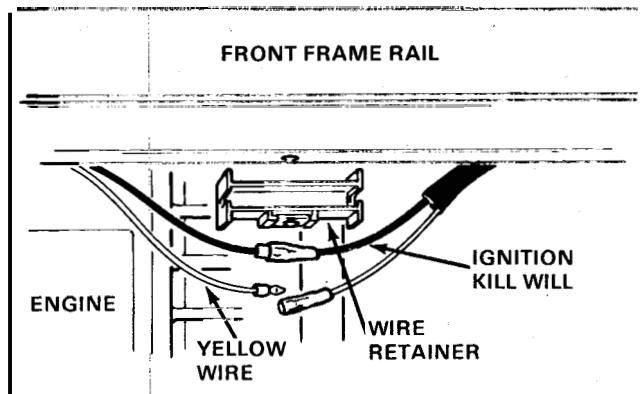

Figure 37
- If the oil level is normal, disconnect the yellow wire connected to the low oil shut down module. Access to the yellow wire may be obtained by removing the single screw that retains a wire connector bracket on the front crossframe of the generator. See Figure 37 for the exact location of the wire.